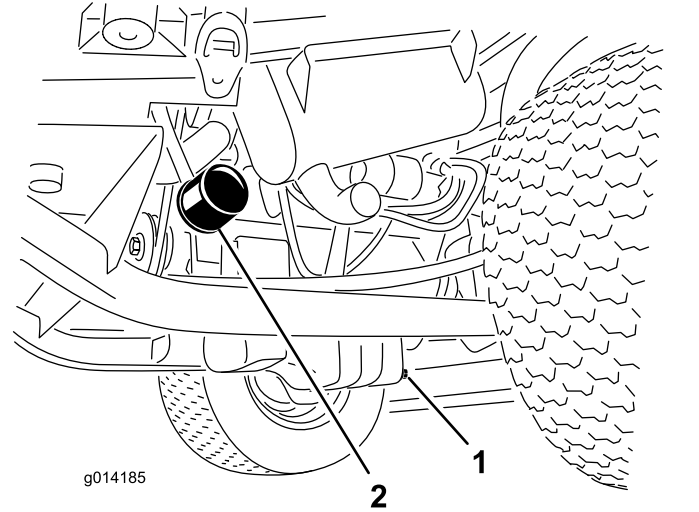

Figure 33
1. Remove the drain plug (Figure 33) and let the oil flow into a drain pan.
3. Remove the oil filter (Figure 33).